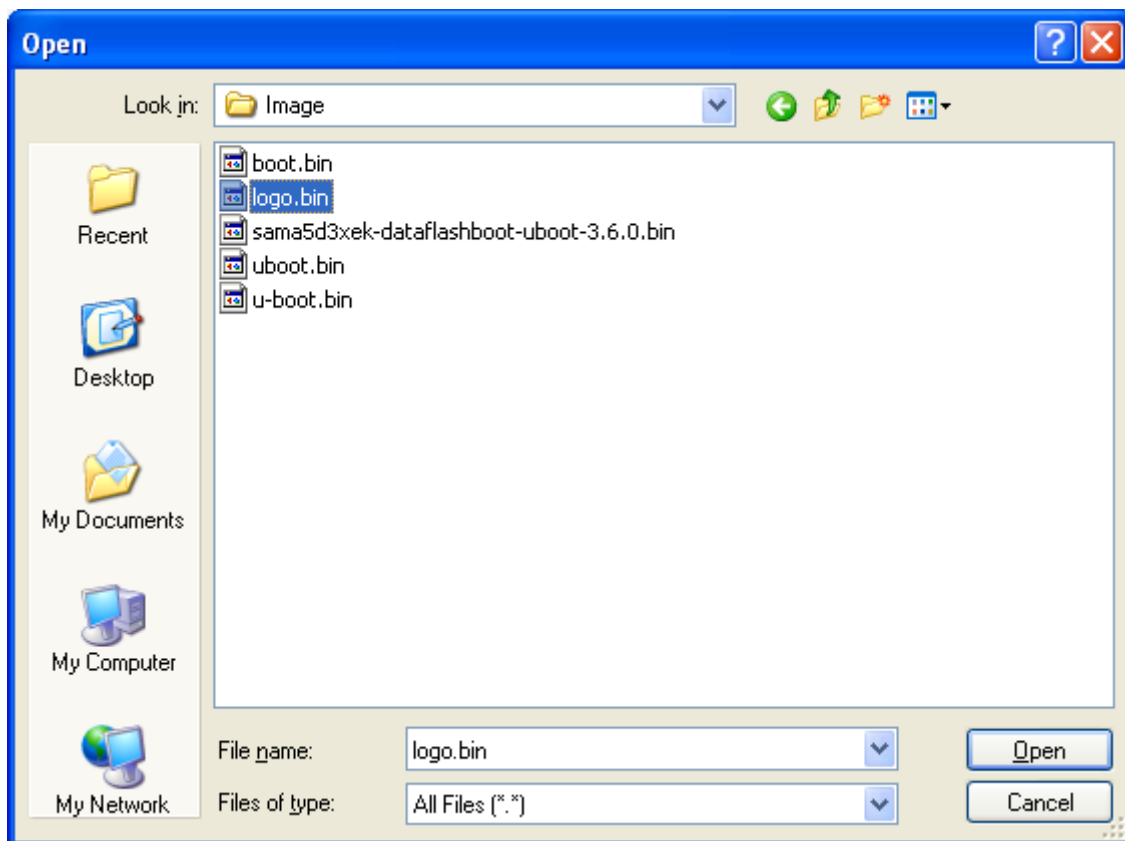

Figure 5.3.13 Burn logo.bin to dataflash
- Open the "**Send File Name**" browse window, select "**logo.bin**", as shown in the figure 5.3.13.